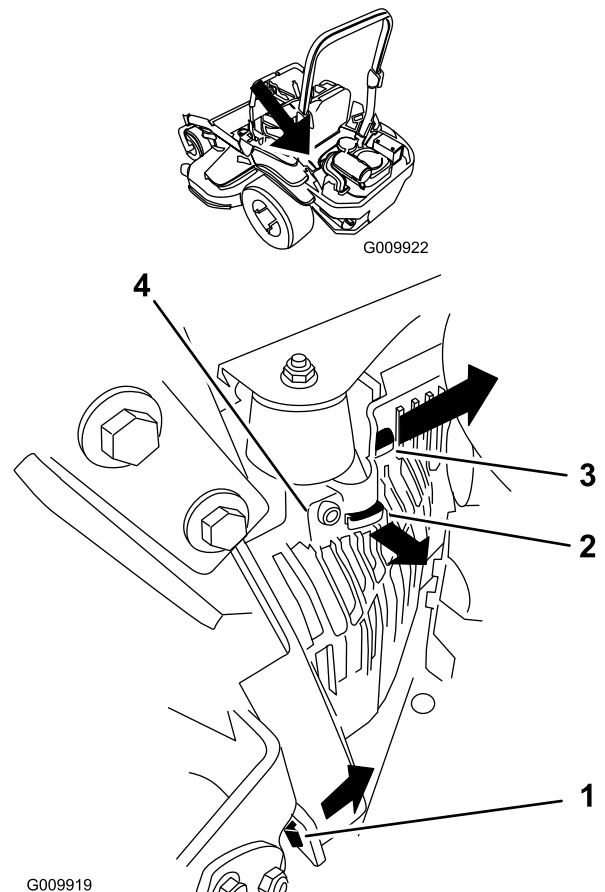

Figure 52
3. Remove the left hydraulic unit shroud in the order listed with Figure 52. This gives you access to the front spark plug.
- Install the left hydraulic unit shroud (Figure 52).